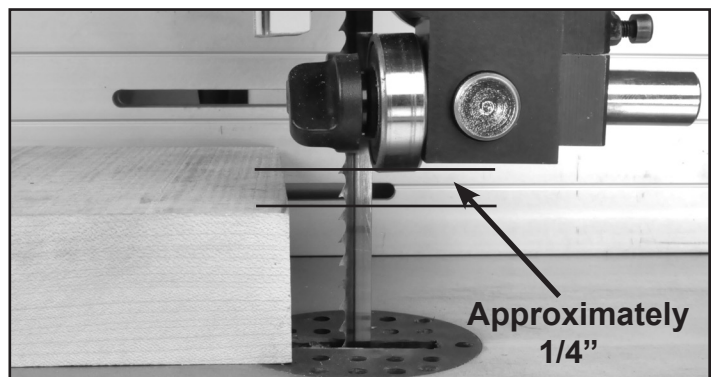

FIGURE 13
**NOTE:** Before cutting, set the upper guide bearings approximately 1/4" above the top surface of the work piece. This will give the best blade control. Figure 13.